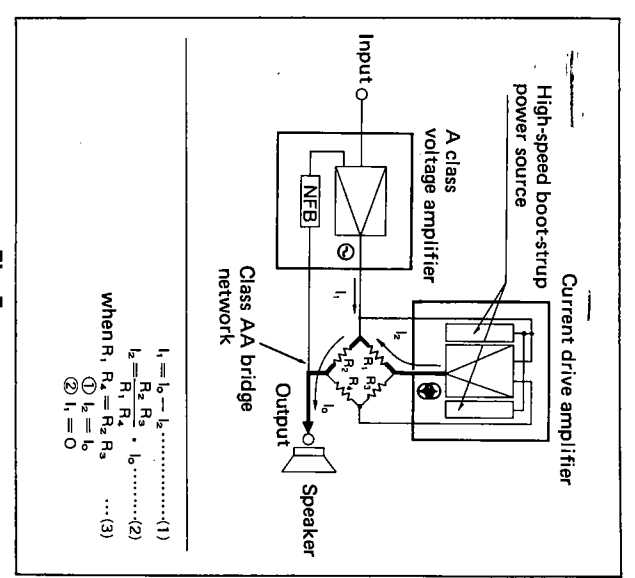

Fig. 5
... a detailed explanation will be given using Fig. 5 about the principle of the "Class AA" operation.
The constant current amplifier, which is called the current drive amplifier, receives the input signal from the voltage amplifier, receives the input signal from the voltage source both ends of the network bridge, and supplies the output current to the other end of the bridge. Therefore, it operates the constant current source to output the current which is proportional to the speaker output current as shown by Equation in Fig. 5.
In the "Class AA" operation, all the speaker driving current supplied from the current drive amplifier when the bridge is balanced as shown by Equation (3) in Fig. 5. Accordingly, the voltage control amplifier is released from the heavy load of current supply, so that it controls the voltage to obtain an output exactly in accordance with the input signal under the condition of "zero" output current. The current drive amplifier, which has sufficient capacity with a margin to supply current required for driving the speaker, together with the voltage control amplifier which operates in the ideal condition of pure class A operation, achieves excellent transmission characteristics of original pure class A operation which have never been obtained in the conventional class A amplifier.